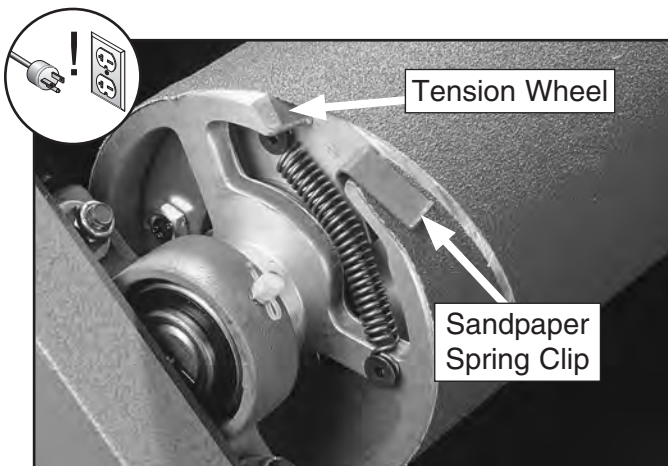

Figure 27. Sanding drum components.
3. Remove tape from right side of first sanding drum, and then remove spring clip that attaches sandpaper to left side of drum (see Figure 27).